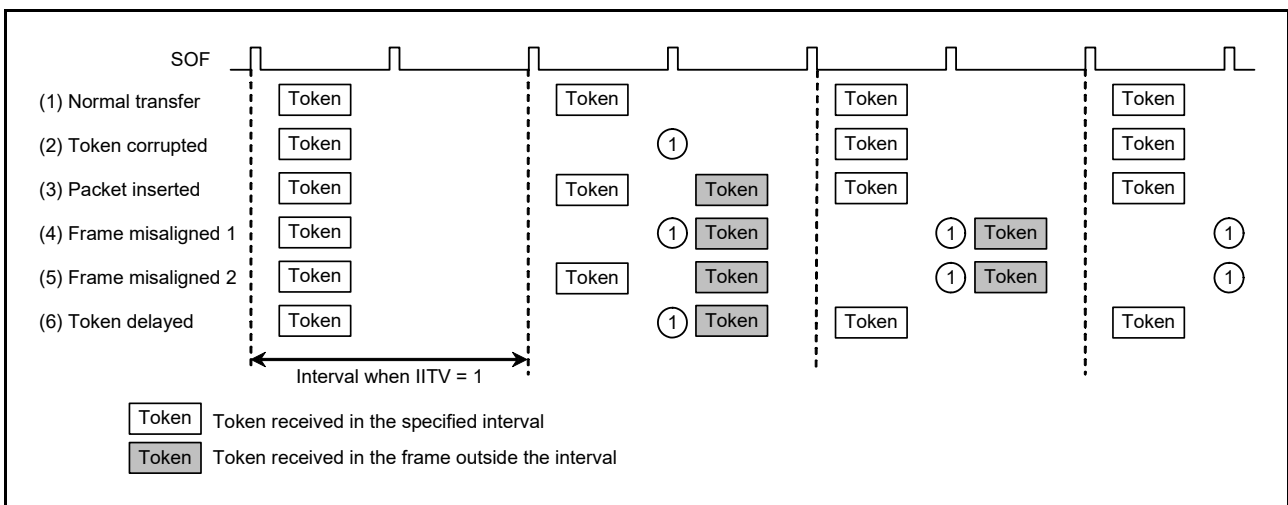

Figure 28.19 Example interval error occurrence when IITV = 1
Figure 28.19 shows an example interval error occurrence. There are five types of interval errors, as shown in the figure. An interval error occurs at timing ① in the figure, and the buffer flush function is activated.